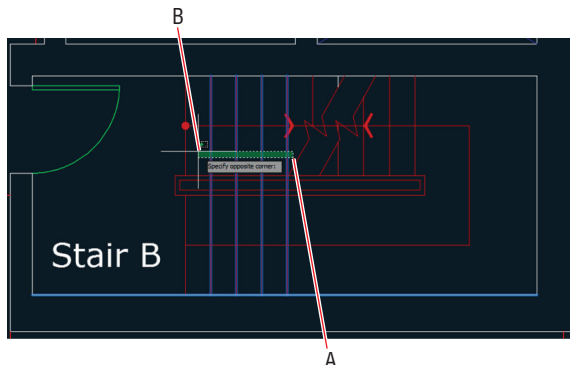

FIGURE 4.22 Extending lines with a crossing window and by selecting
3. Create a crossing window by clicking points **A** and **B**, as shown in Figure 4.22. Four tread lines are extended. Click each remaining tread line, one at a time, to extend all the stair treads to the core wall. Press **Enter** to end the command.